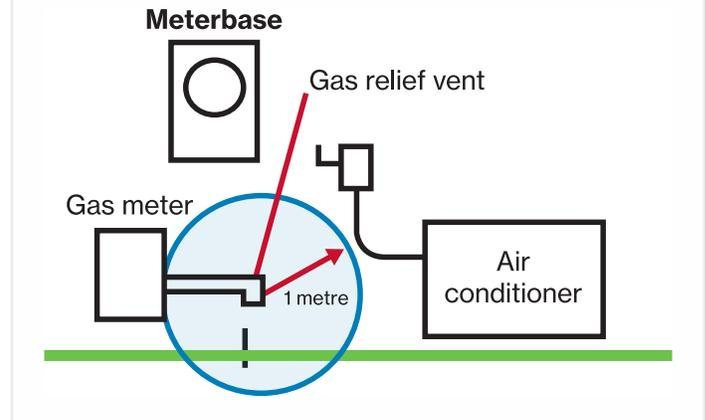

Figure 1: Minimum clearance required between electrical equipment and Gas relief source
2. Limited Relief: Overpressure Cut-Off (LR-OPCO) devices (that relieve 1.5 m3/hr or less) can be installed no closer than 0.3 metres to the electrical equipment listed in item 1) above, when measured from the relief vent. The use of LR-OPCO regulators is an alternative to use when the relief vent clearances cannot be met, either by placement of a typical regulator, or by piping it away.
3. Figure 1 shown at right is from ESA Bulletin 2-10-9, and shows the relief vent being placed at least 1 metre away from **electricity meter bases**. This is applicable **ONLY** when there are integral internal contacts in the meter used for recording or remote readings. (i.e. Load limiter). However, the ESA has informed Enbridge Gas that since the electricity distributor reserves the right to install arc-producing metering devices at any time they choose, each distributor may also choose to enforce this rule even if the installation presently complies with the Electrical Safety Code.
Figure 1 illustrates an example of an installation that complies with the minimum requirements.